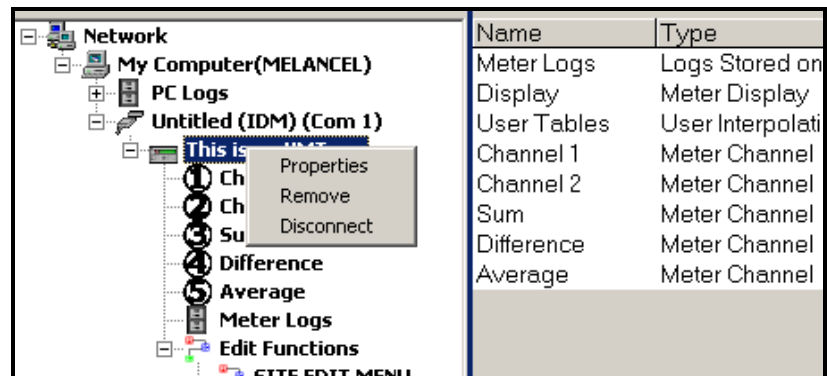

Figure 2-4: Properties Option in the New Meter Browser
2. Right-click on the highlighted XMT868i and click on the *Properties* option, as shown in Figure 2-4 below.